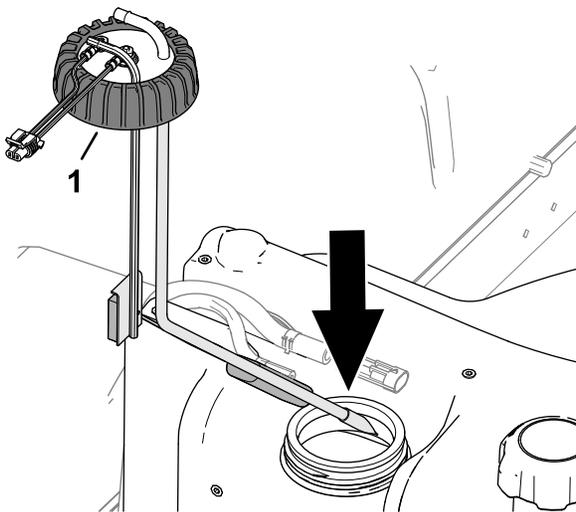

Figure 128
2. Carefully assemble the fuel pick-up tube and float into the fuel tank (Figure 128).